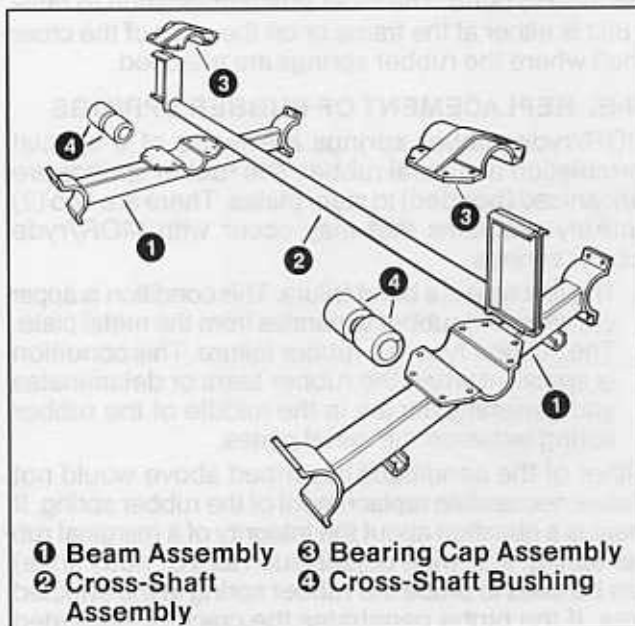

Figure 6 – Rubber Bushing Installation on MOR/ryde Cross-Shaft Assembly
- k. Put new cross-shaft assembly and/or new cross-shaft bushings in place. Before tightening bearing cap assemblies, make sure cross-shaft bushings are properly located with seams aligned horizontally with mating surface of bearing cap assemblies. Refer to Figure 6.